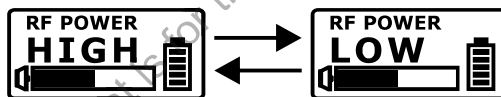

Fig. 16
(E) RF POWER: RF Power Setting. Fig. 16
- (1) Select HIGH or LOW.
- (2) HIGH has 50mW transmitting power. LOW has 10mW transmitting power. Set appropriate power to meet region/country regulations.